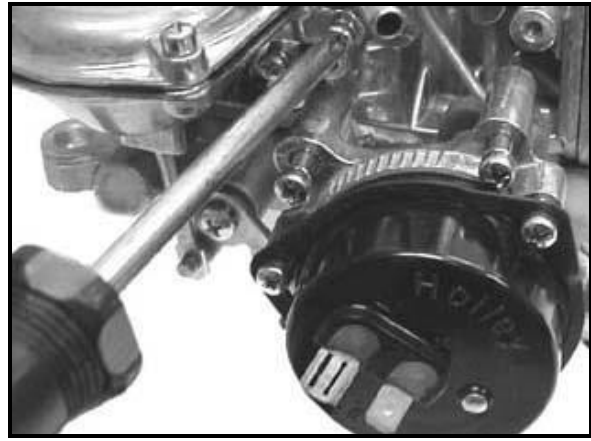

Figure 16
2. Remove three screws attaching secondary vacuum diaphragm to the main body (**Figure 16**).